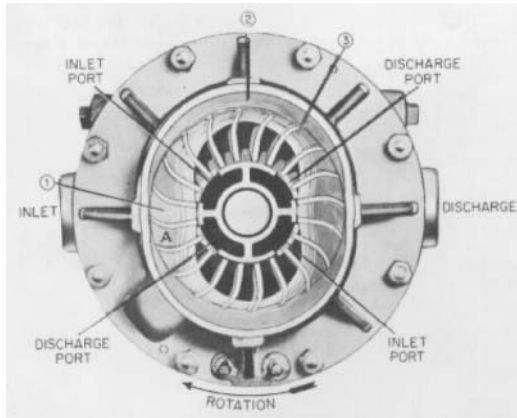

FIGURE 5 Operating principle of the Nash Hytor pump (Nash Engineering)
used in priming systems is shown in Figure 5. This is a centrifugal displacement type of pump consisting of a round, multibladed rotor revolving freely in an elliptical casing partially filled with liquid. The curved rotor blades project radially from the hub and, with the side shrouds, form a series of pockets and buckets around the periphery.
Referring to Figure 5 and following through a complete cycle of operation in a given chamber, we start at point A with the chamber (1) full of liquid. Because of the effect of the centrifugal force, the liquid follows the casing, withdraws from the rotor, and pulls air through the inlet port, which is connected to the pump inlet. At (2) the liquid has been thrown outwardly from the chamber in the rotor and has been replaced with air. As rotation continues, the converging wall of the casing at (3) forces the liquid back into the rotor chamber, compressing the air trapped in the chamber and forcing it out through the discharge port, which is connected with the pump discharge. The rotor chamber is now full of liquid and ready to repeat the cycle. This cycle takes place twice in each revolution.